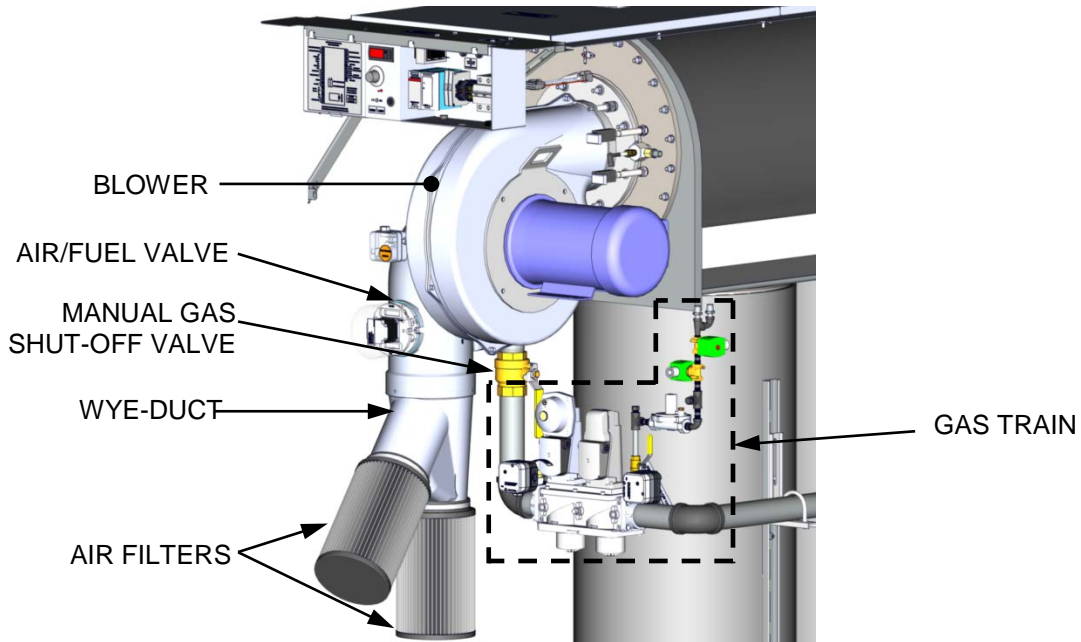

Figure 6-3: Bare Boiler – Partial View
3. Close the manual gas shutoff valve located between the Safety Shut-Off Valve (SSOV) and the Air/Fuel Valve, as shown on Figure 6-3, below.
9. Once flame is proven, close the manual gas valve located between the SSOV and the Air/Fuel Valve (see Figure 6-3).